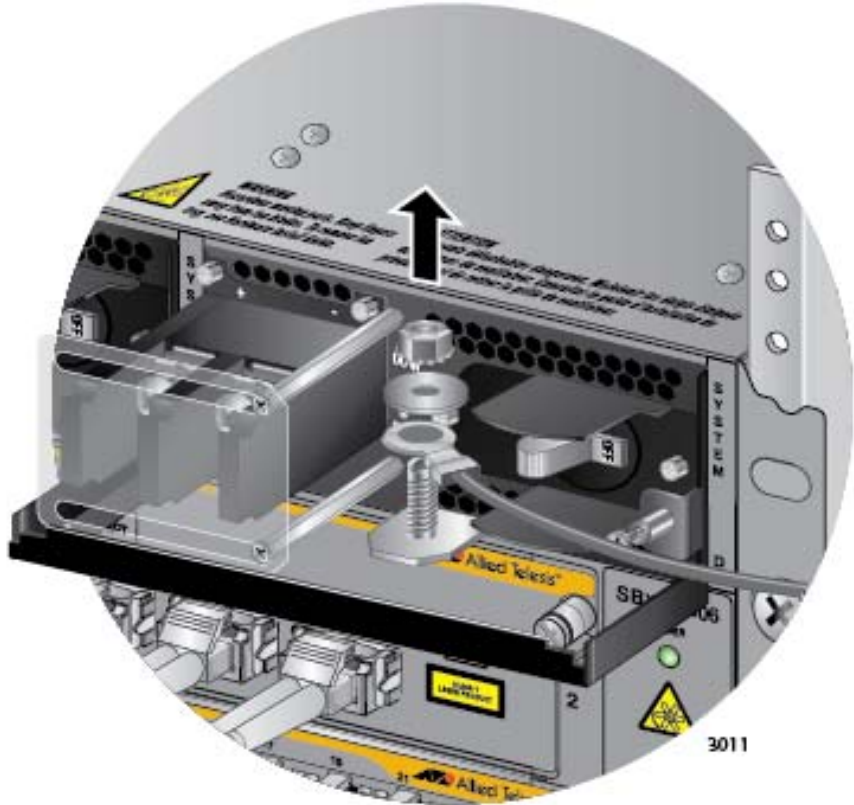

Figure 176. Removing the Grounding Wire
9. Use an 8 mm wrench to remove the grounding wire from the grounding post. Refer to Figure 176 on page 279.